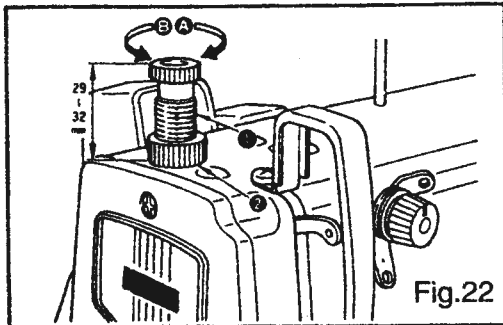

Fig.22
1)To stop the machine with its presser foot up, turn hand lifter ① in direction ➔ .
18.PRESSER FOOT PRESSURE(Fig.22)